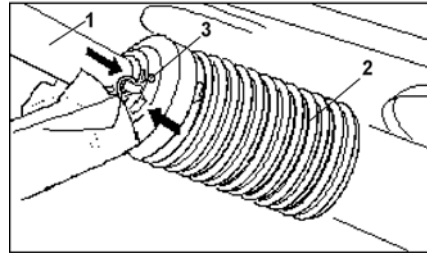

Fig. 11
- Push on guard cone (Fig. 11/1) and twist guard funnel (Fig. 11/2) into fitting position.
- Insert locking bolt (Fig. 11/3).